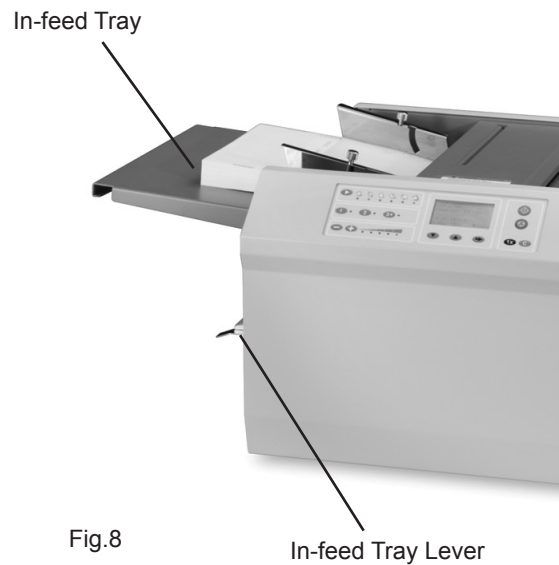

Fig.8 In-feed Tray Lever
5. Raise the in-feed tray lever to lower the in-feed tray. (Fig 8)